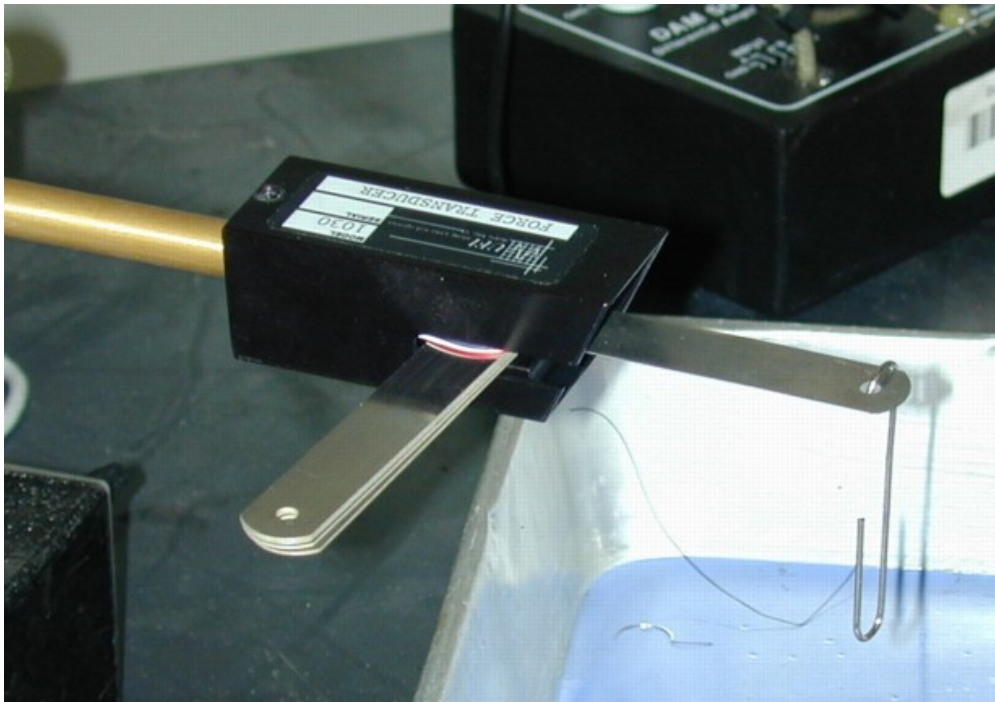

Figure 2: Calibration of the force transducer.
- Mount the transducer in the magnetic stand and make sure only the thinnest blade is aligned with the transducer handle (all the other blades should be perpendicular to the handle), as shown in Figure 2. Rotate the transducer so the flat side of the blade is parallel (horizontal) to the table; deflections in the up and down directions should cause the signal on the oscilloscope to change.